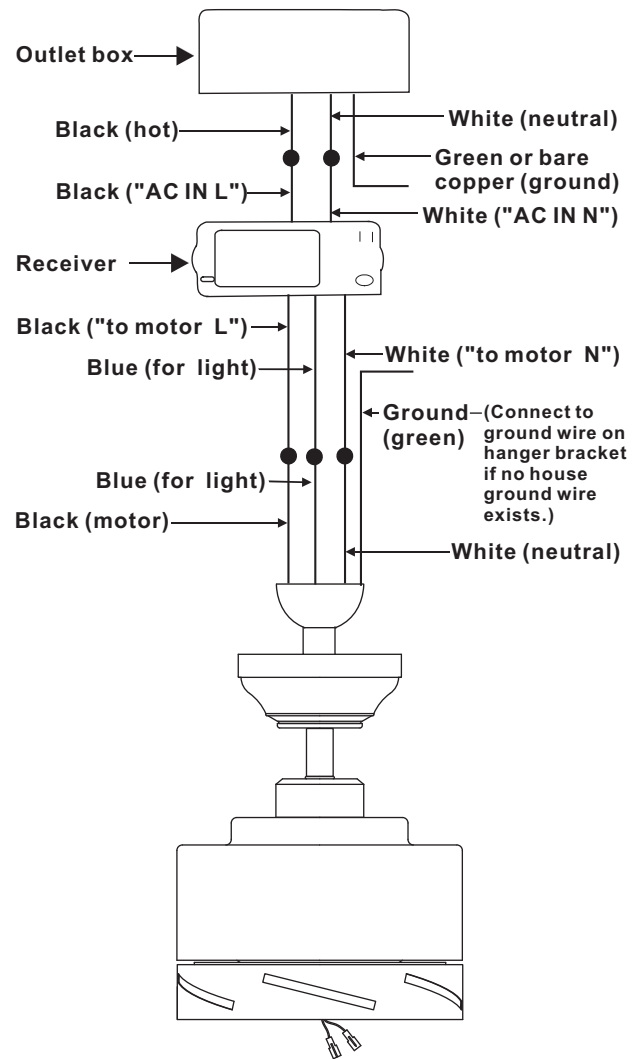

Figure 14
Step 2. (Figure 14) Motor to Receiver Electrical Connections: Connect the black wire from the fan to black wire marked "TO MOTOR L". Connect the white wire from the fan to the white wire marked "TO MOTOR N" from the receiver. Connect the blue wire from the fan to the blue wire marked "For Light" from the receiver. Secure the wire connections with the plastic wire nuts provided.
Step 3. (Figure 14) Receiver to House Supply Wires Electrical Connections: Connect the black (hot) wire from the ceiling to the black wire marked "AC in L" from the receiver. Connect the white(neutral) wire from the ceiling to the white wire marked "AC in N" from the Receiver. Secure the wire connections with the plastic wire nuts provided.
Step 4. (Figure 14) If your outlet box has a ground wire (green or bare copper) connect it to the fan ground wires; otherwise connect the hanging bracket ground wire to the mounting bracket. Secure the wire connection with a plastic nut provided. After connecting the wires, spread them apart so that the green and white wires are on one side of the outlet box and black and blue wires are on the other side. Carefully tuck the wire connections up into the outlet box.